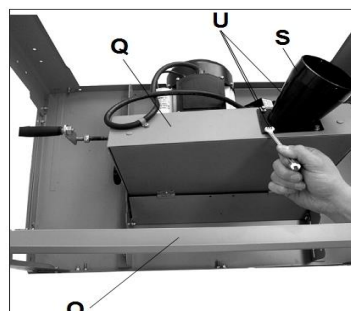

Fig 6
Fasten the extractor connection to the bottom of the chip box (Q) with 4 screw (U). Fig 6.